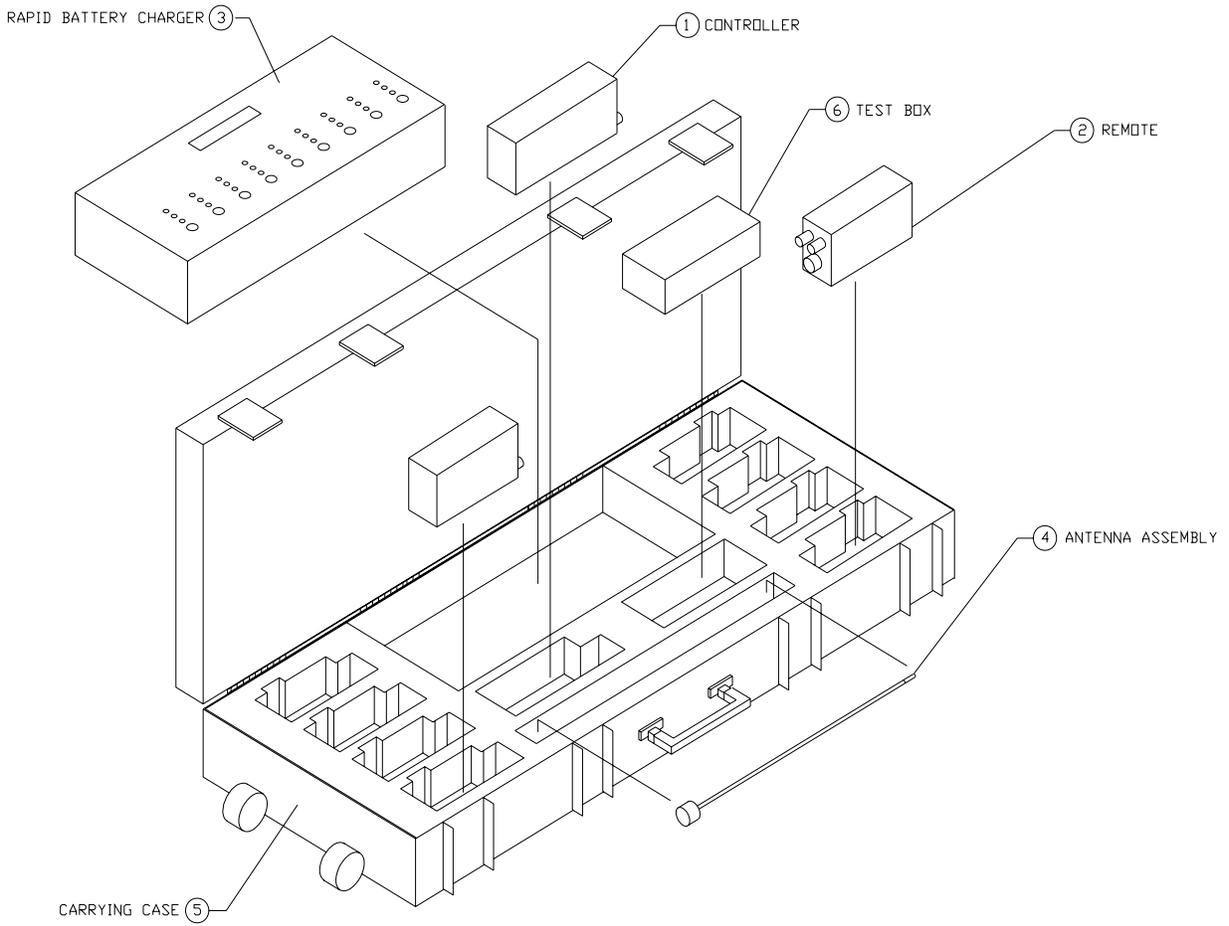

Figure 2-1 RFD System.
2.1.6. The RFD System consists of the component parts in Table 2-1. The total system is shown and identified in Figure 2-1.